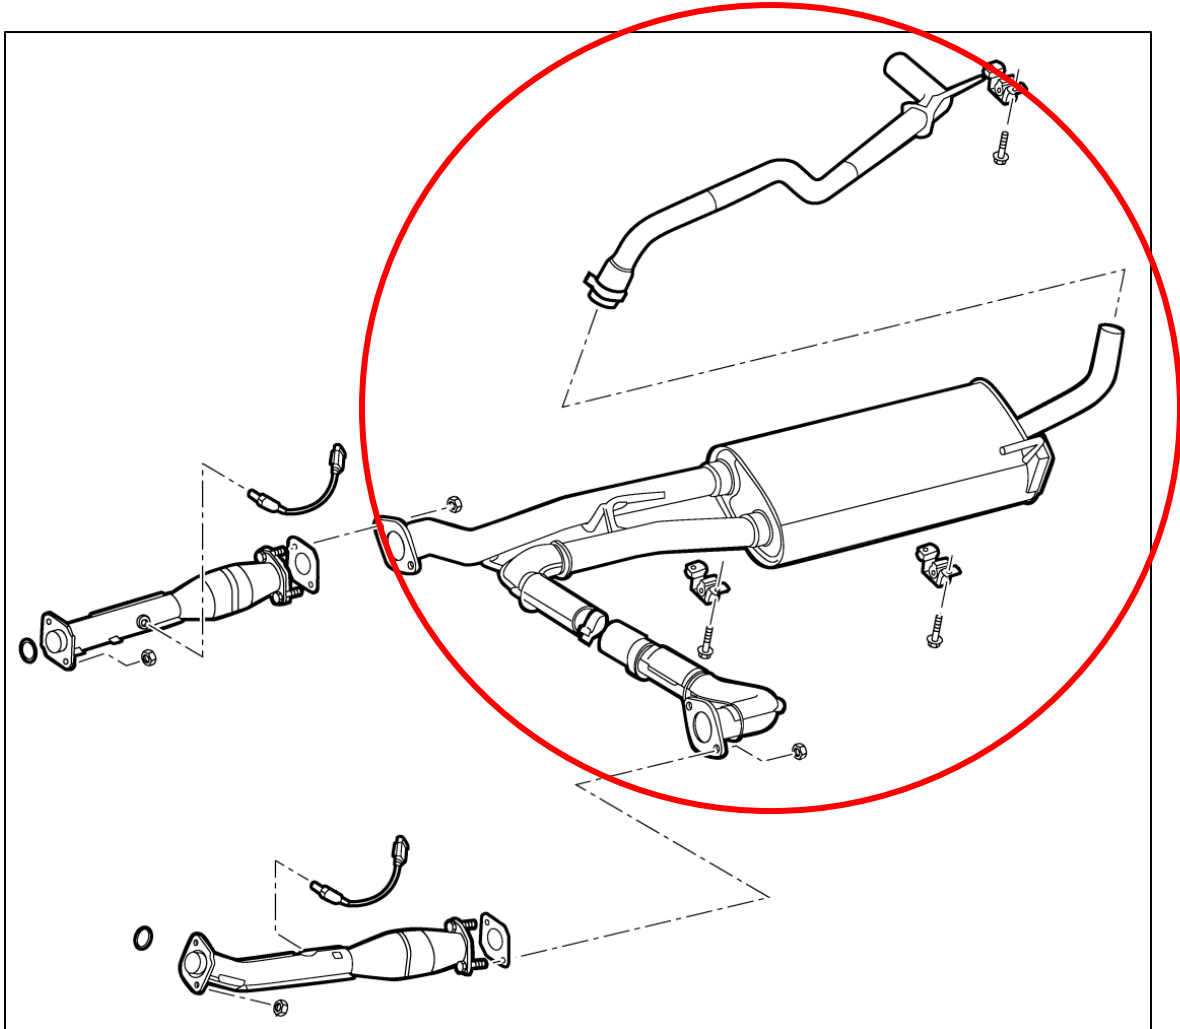

Figure 1
3. Remove the old exhaust system from behind the Catalytic Converters. Allow time for the Exhaust to cool if it was recently driven. Using a Rust Penetrant on all hardware can allow for easier removal as well. *Figure 1.*